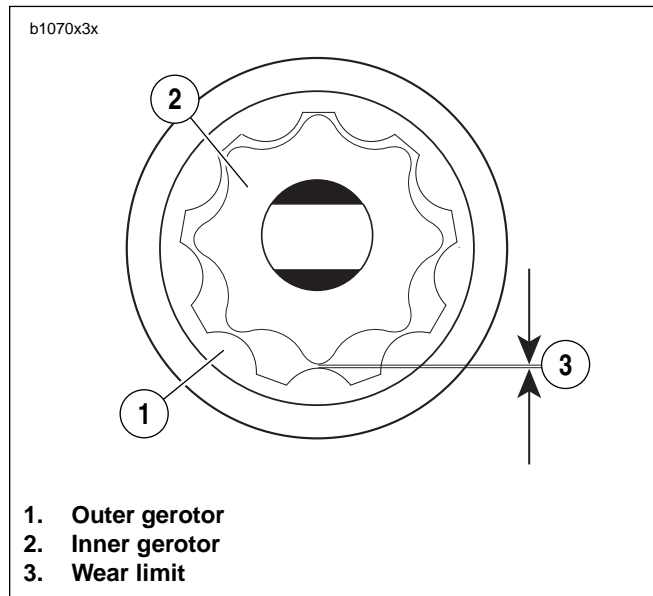

Figure 3-120. Gerotor Wear Limits
2. See Figure 3-120. Inspect both gerotor sets for wear.
3. See Figure 3-120. Check gear shaft teeth for damage or wear. Replace if necessary.